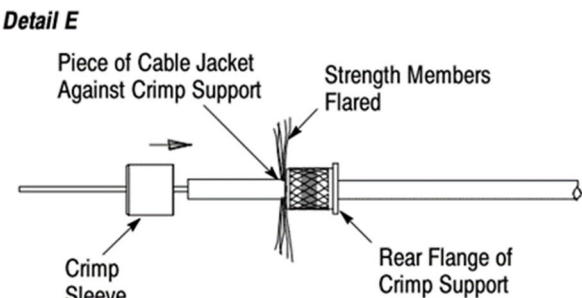

Figure 4
1. Apply a continuous bead of the instant adhesive around the cable jacket between 4 and 5 mm from the stripped end of the jacket. See Figure 4, Detail A.
2 Rotate and slide the crimp support (large diameter end first) over the fiber and strength members and onto the jacket until it bottoms (rotating the crimp support between the thumb and index finger will help feed the strength members through the crimp support). See Figure 4, Detail B.
3. Apply a thin band of the instant adhesive around the knurled portion of the crimp support. Make sure that the band is continuous around the entire circumference. See Figure 4, Detail C.
4. Slide the piece of cable jacket (stripped from the jacket in Paragraph 5.1) over the buffered fiber and into the center of the strength members until it bottoms against the crimp support and the strength members are flared away from the fiber. See Figure 4, Details D and E.
5. Slide the crimp sleeve over the fiber and piece of cable jacket so that the strength members fold back evenly around and over the crimp support and until it bottoms on the rear flange of the crimp support; then remove the piece of cable jacket. This step should be performed quickly before the adhesive begins to harden. See Figure 4, Detail E.